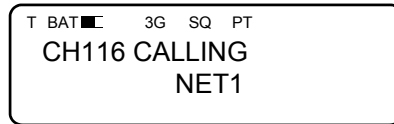

Figure 3-26. Net Call Screen
- f. KDU displays call status. See Figure 3-26.